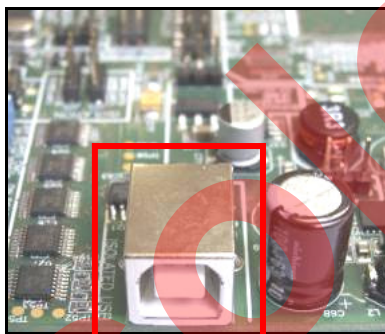

Figure 31: Isolated USB Connector
16. Isolated USB (see Figure 31)